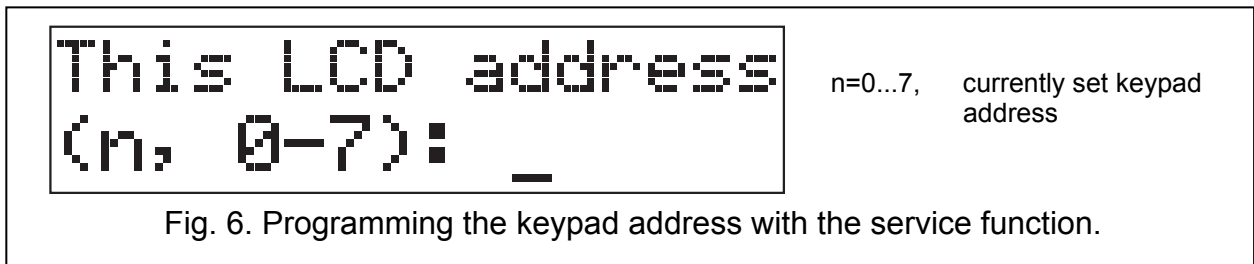

Fig. 6. Programming the keypad address with the service function.
4. The message shown in Fig. 6 will appear on display of all keypads connected to the control panel.